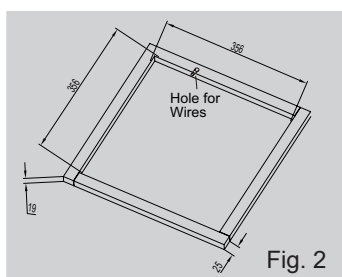

Fig. 2
If a roof vent opening is not used, a new opening (see Fig. 2) will be cut into the vehicle roof. A matching opening will also have to be cut into the interior vehicle ceiling, be careful when cutting the ceiling opening because if the ceiling opening is carpeted, snagging could occur. After the opening in the roof and interior ceiling are the correct size, a framed support structure must be placed between the exterior roof top and interior ceiling. The reinforced framed structure must follow the following guidelines:
2. It must be capable of holding the roof outer surface and interior ceiling apart and supporting them, so that when the roof top air conditioner and ceiling assembly are bolted together, no collapsing occurs. A typical support frame is shown in Fig. 2.